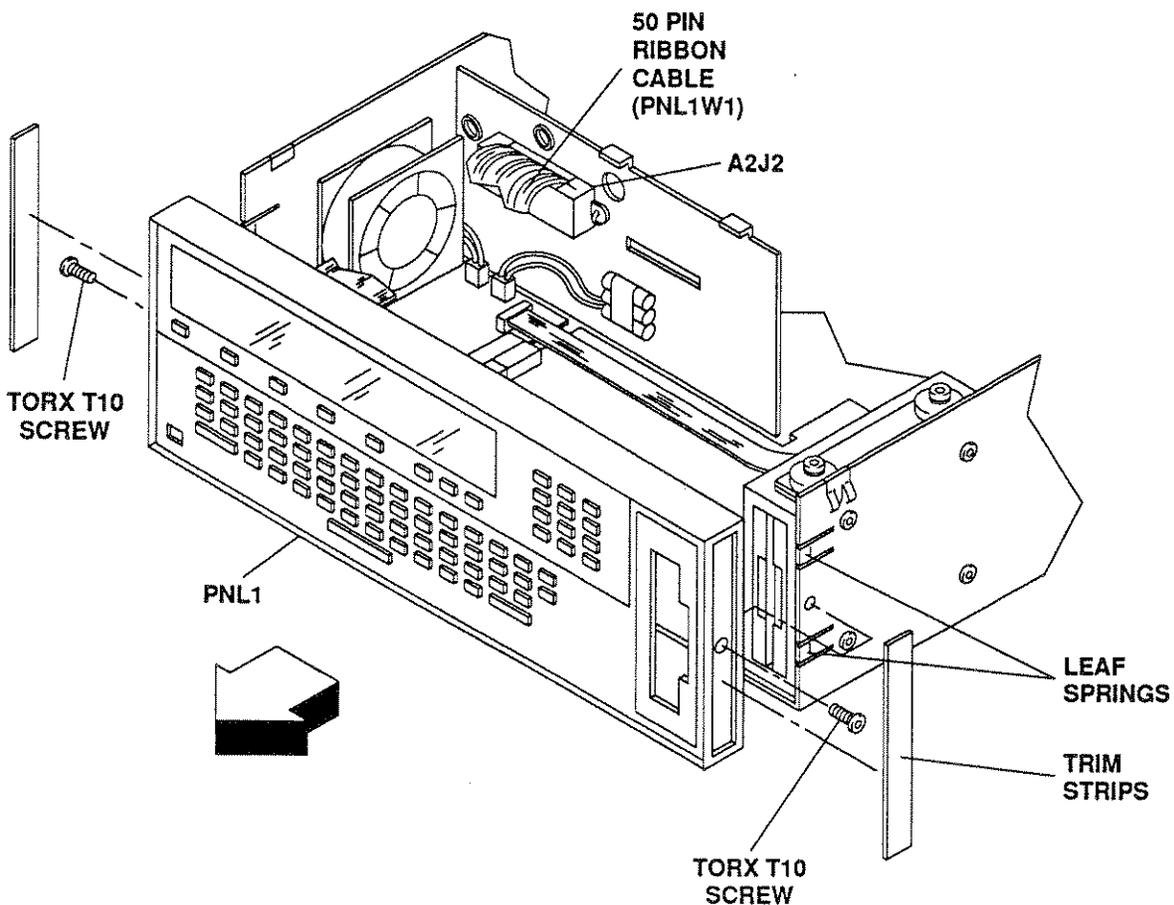

Figure 8-11. Remove and Replace PNL1 Front Panel Assembly
2. Disconnect the following wires/cables (see Figure 8-11):
2. Remove PNL1 Front Panel Assembly (see Figure 8-11).
2. Remove PNL1 Front panel Assembly (see Figure 8-11).